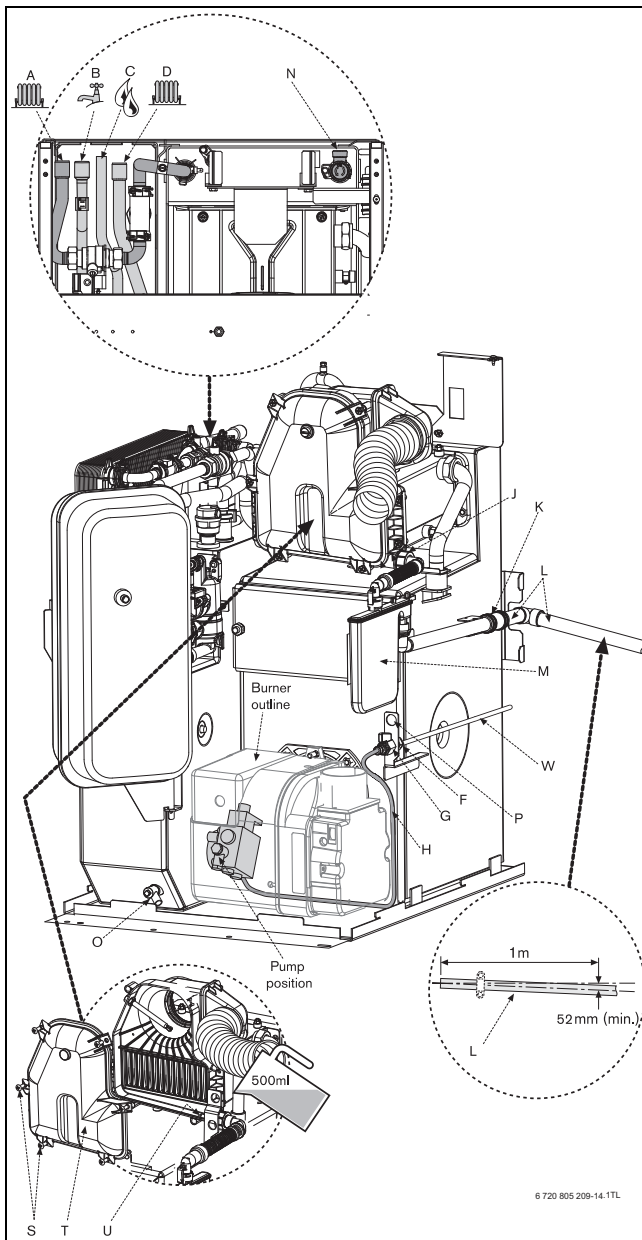

Fig. 40 Pipe connections
Refer to figure 40 on page 27
2. Connect the flexible oil pipe return hose [3] (not supplied) to the oil pump and return pipe fixing and tighten to secure (for routing see figure 40.
- ▶ Check that the burner is seated correctly on its mounting flange and that the oil hose/s are routed correctly as shown in Fig. 40 on page 27 and not trapped in front of or underneath the burner.